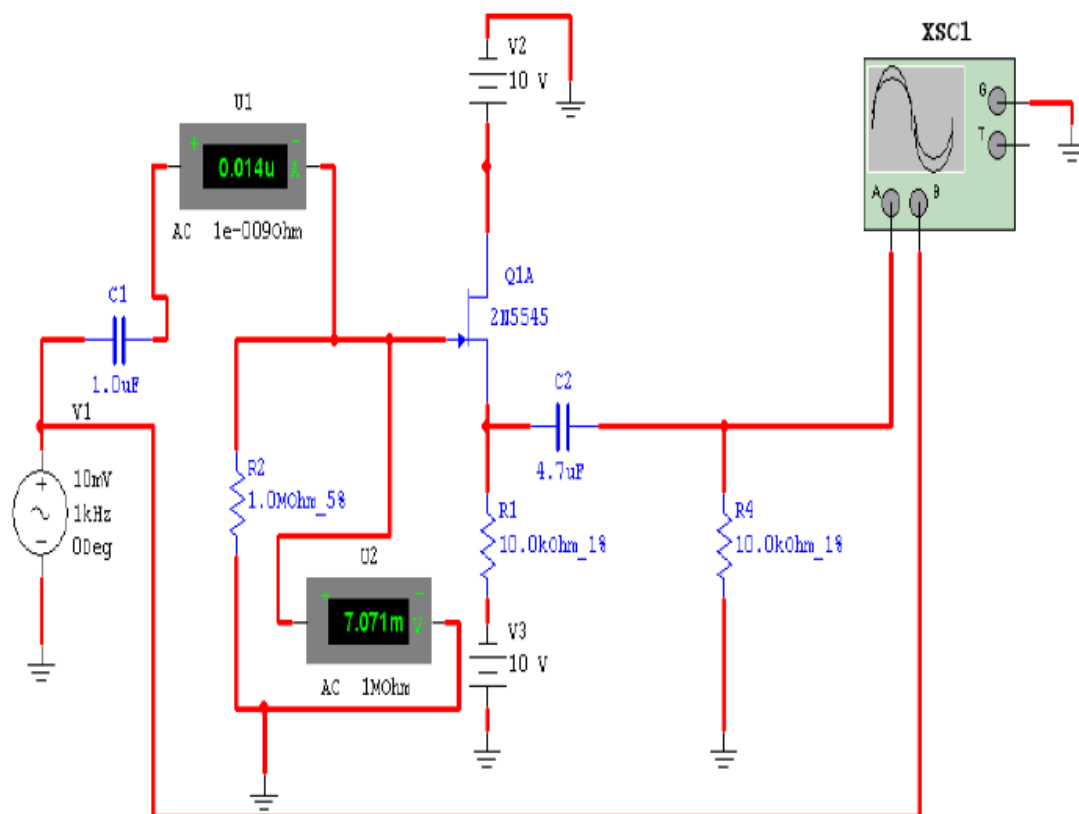

Fig.14 CD amplifier connected to measure Z_{in}
- Connect an AC voltmeter to measure V_{in} ; Fig.14.